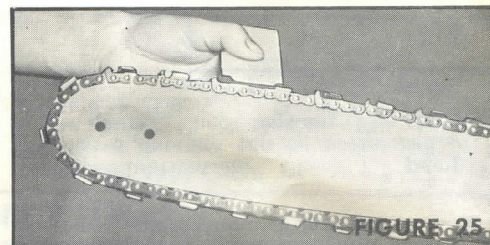

FIGURE 25
1. This illustration recommends the use of the die cut corner, sheared at 35° for the maintaining of correct top angle on all cutters. This important feature on chain filing is outlined in all chain instruction pieces and the Operator's Manual (Figure 25).